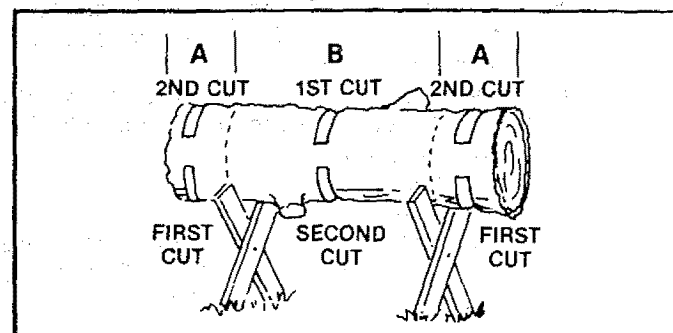

Figure 32
5. BUCKING — USING A STAND (Figure 32):